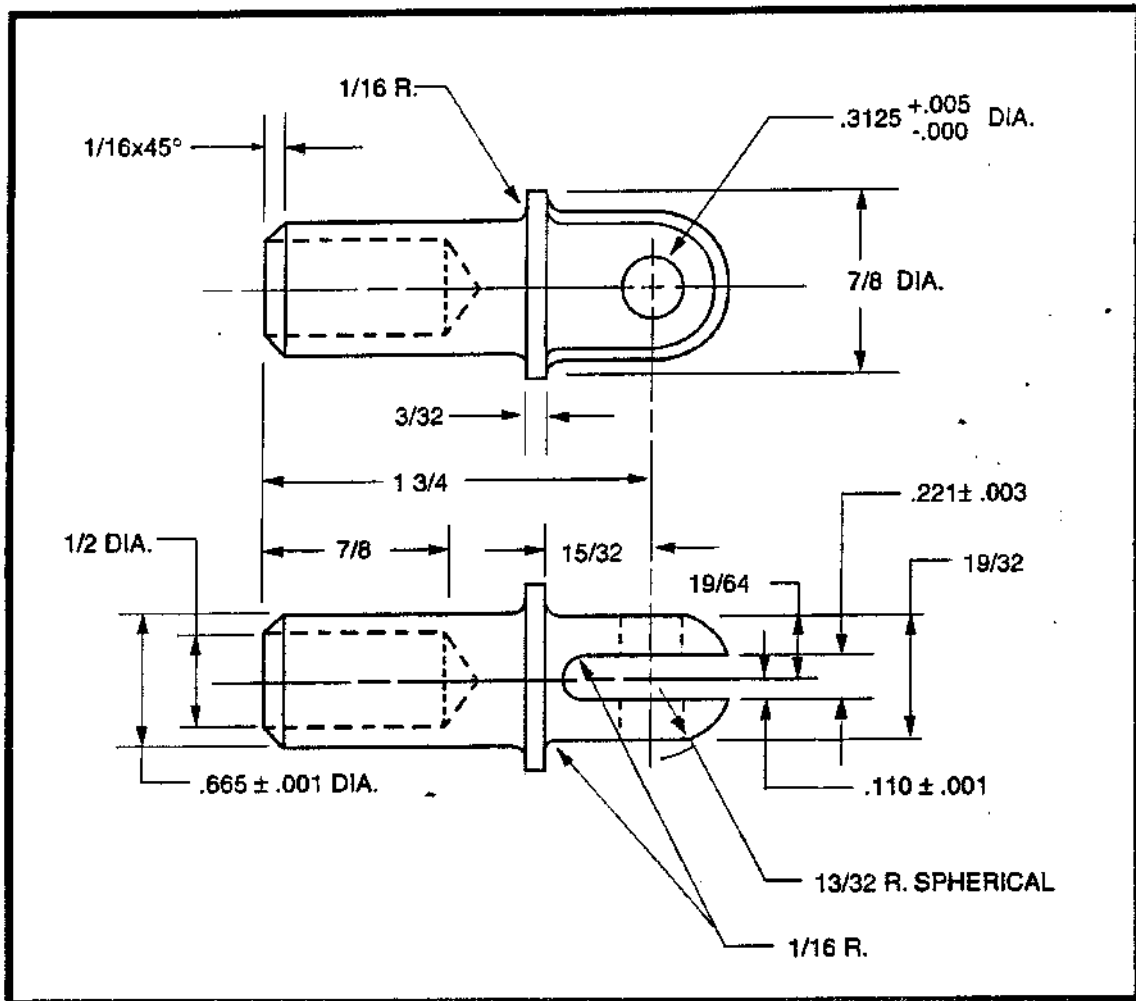

Fig. 3.9. Aircraft Drawing.
31. (Refer to figure 3.9) What is the dimension of the chamfer?
32. (Refer to figure 3.9) What is the maximum diameter of the hole for the clevis pin ?
33. (Refer to figure 3.9) What would be the minimum diameter of 4130 round stock required for the construction of the clevis that would produce a machined surface ?
34. (Refer to figure 3.9) Using the information, what size drill would be required to drill the clevis bolthole ?